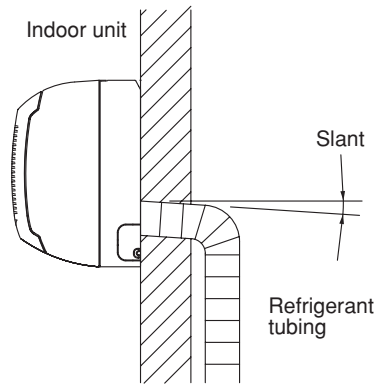

Fig. 3-63
- a) The drain hose should be slanted downward to the outside. (Fig. 3-63)